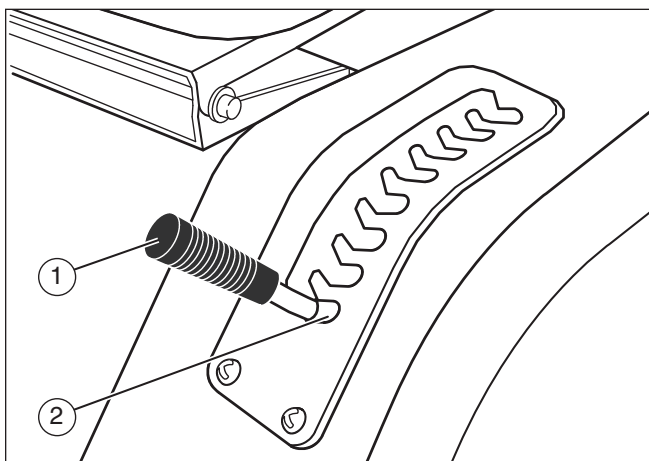

Figure 28
3. Move the lift lever to the lowest position (see Figure 28).
6. Raise the lift lever (1) (see Figure 28).